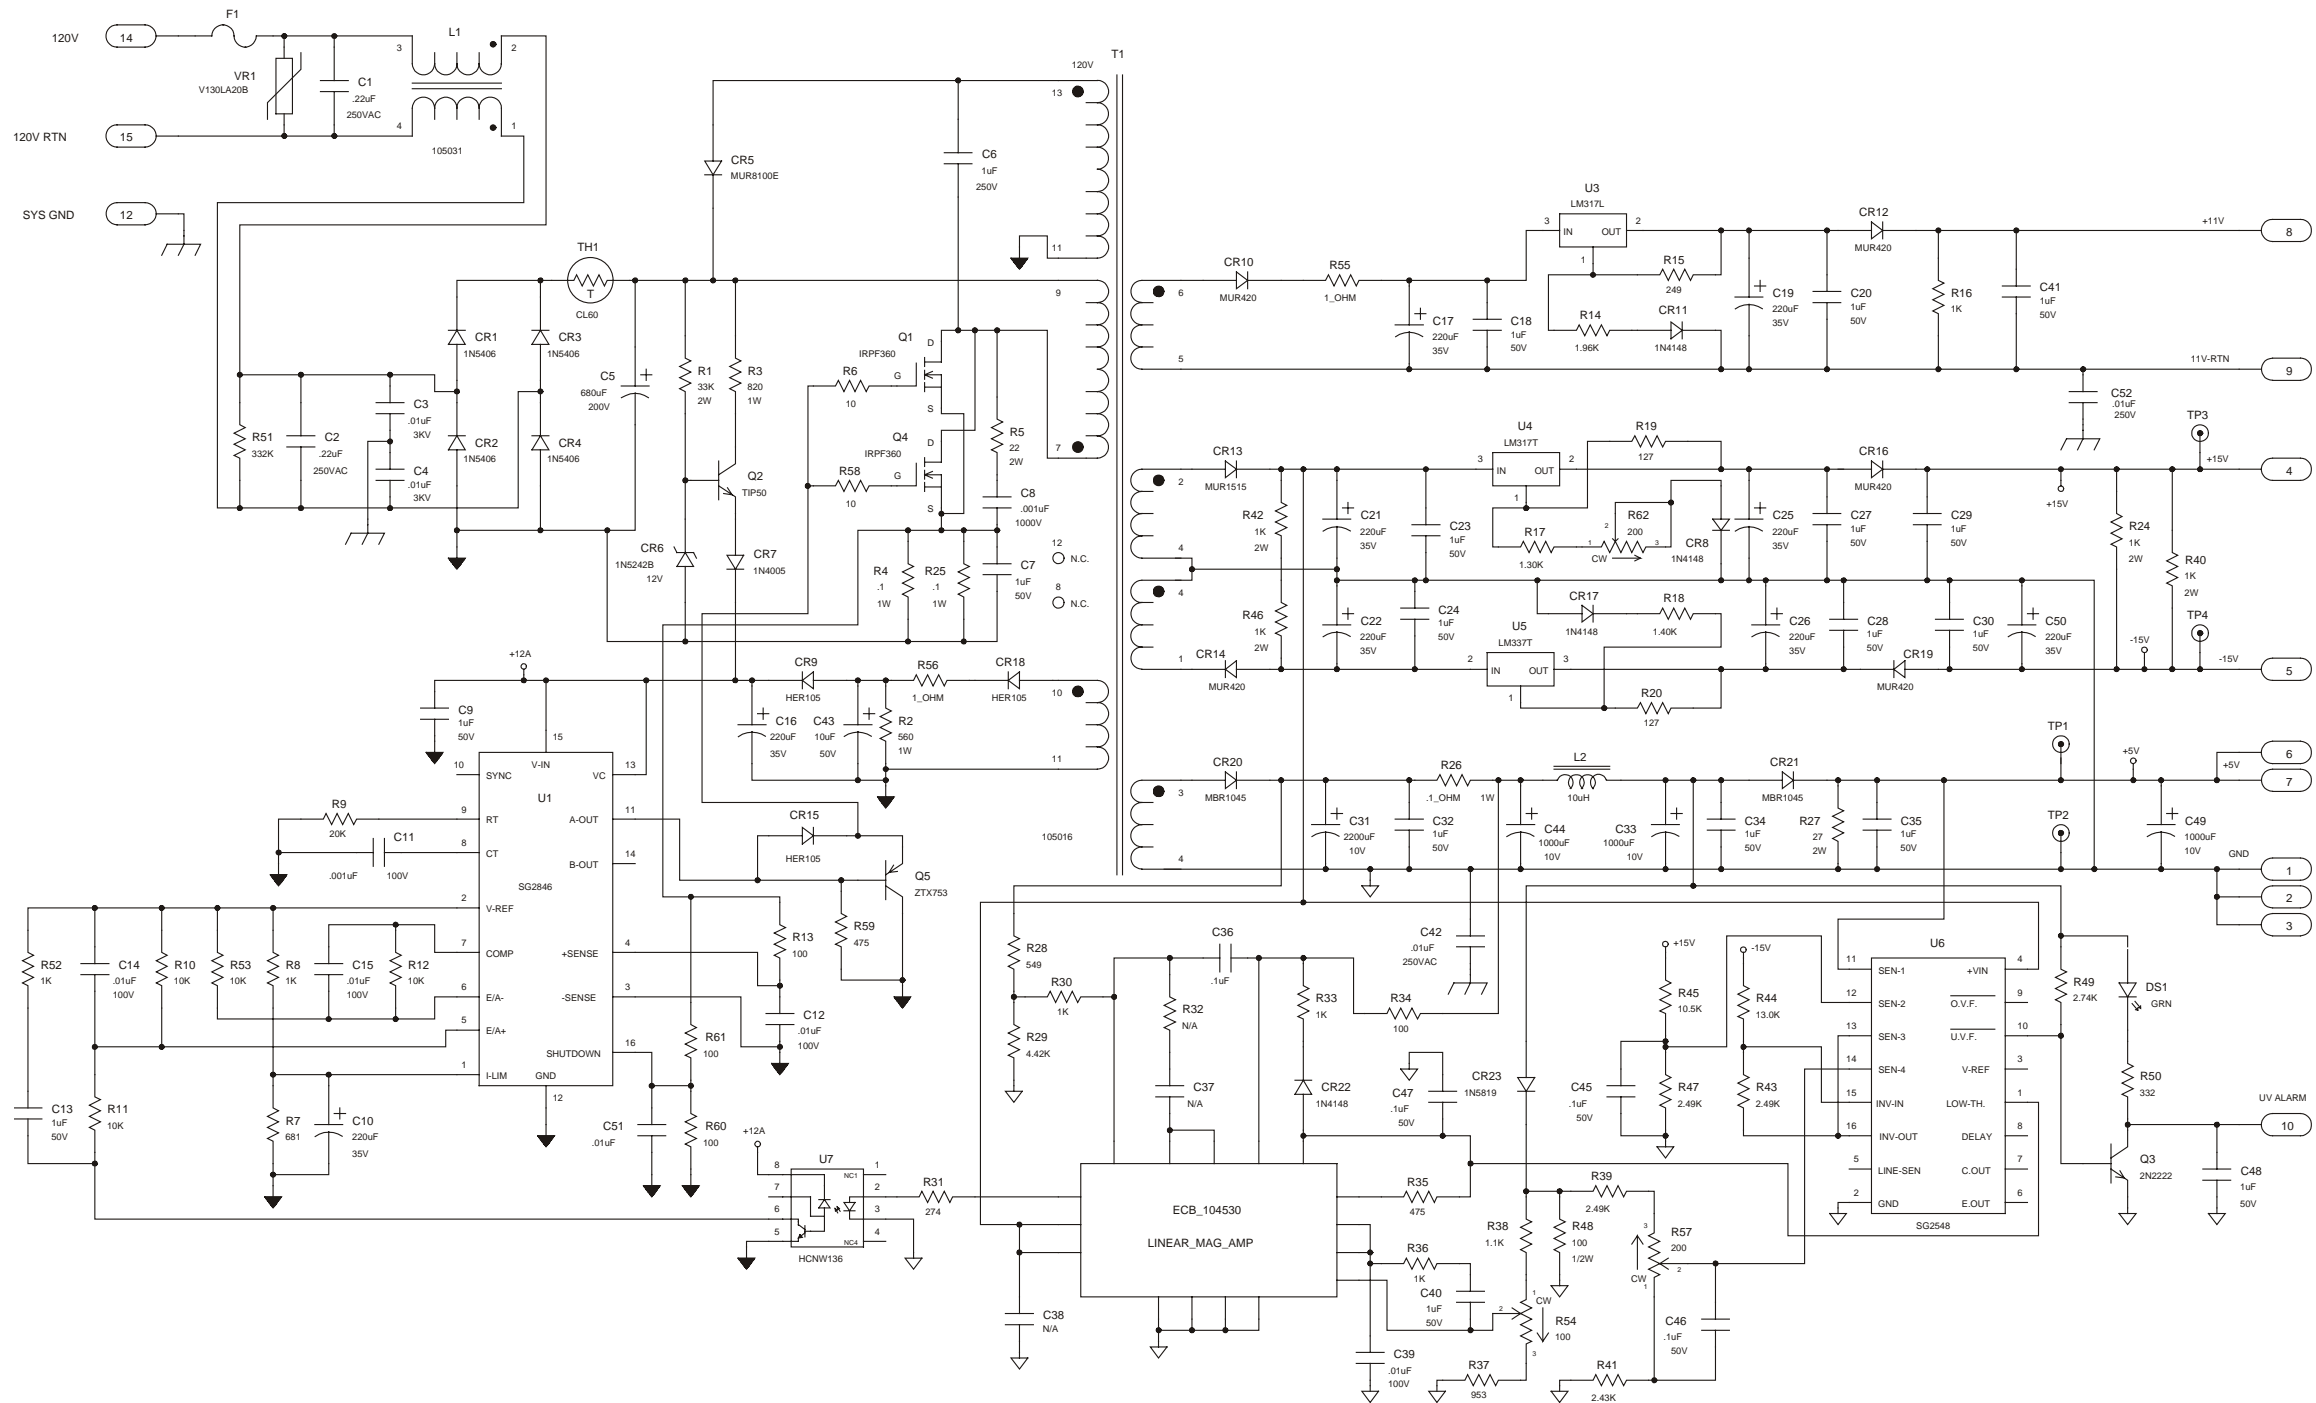

Figure 13-9. Schematic Diagram, 9745 Power Supply, 38-150 Vdc (Drawing No. D-105909-J)
9. Figure 13-9. Schematic Diagram, 9745 Power Supply 38-150 VDC (Drawing No. D-105909-J)